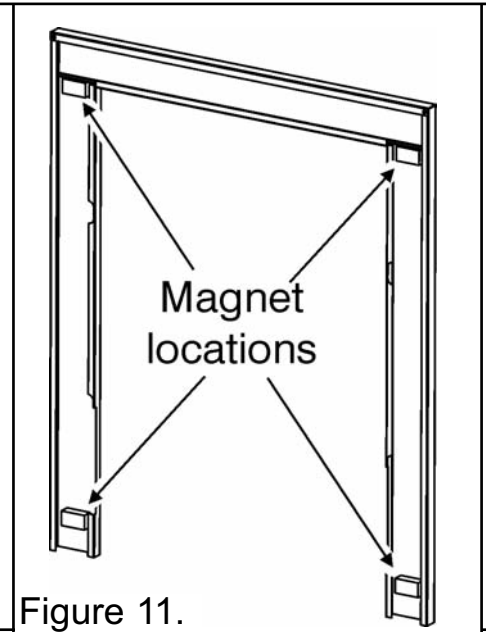

Figure 11.
1. Removing the fascia trim may have moved the magnets used to fix it to the heater. The magnets should be located as in figure 11.
2. Removing the fascia trim may have moved the magnets used to fix it to the heater. The magnets should be located as in figure 11.